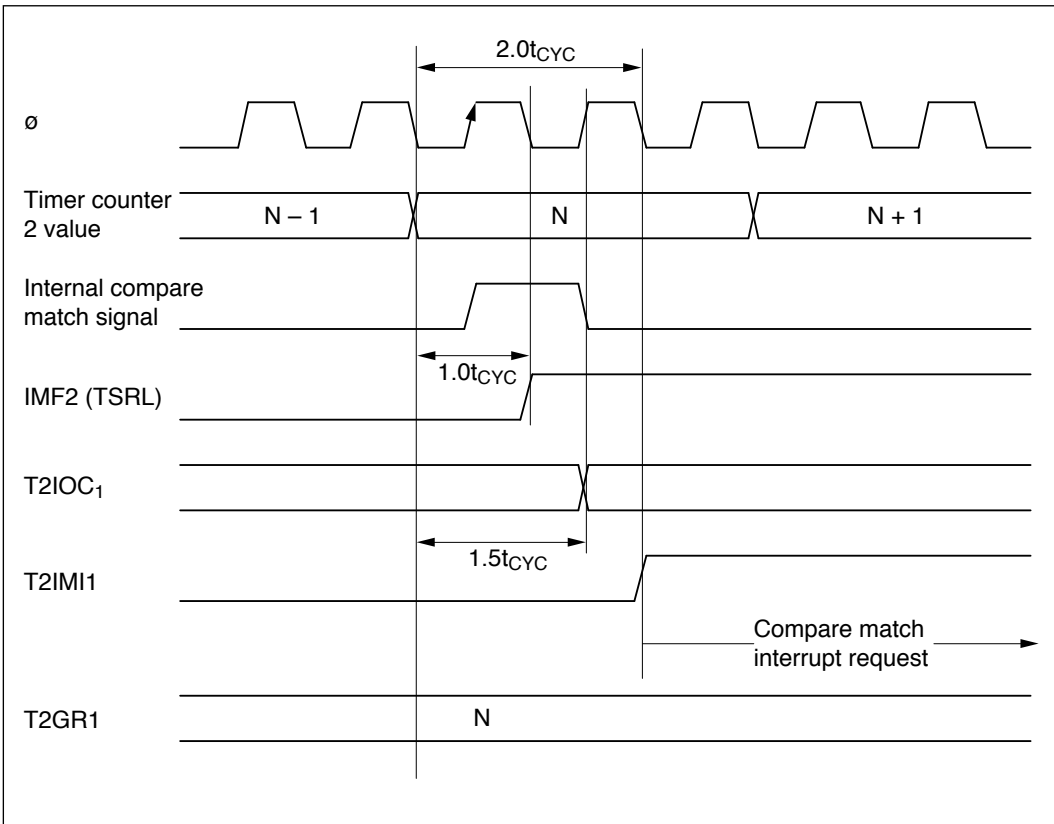

Figure 10-46 Timing from Incrementation to Compare Match Interrupt Request
(1) Output Compare Timing: Figure 10-46 shows the timing from counter increment to generation of a compare match interrupt request. One system clock cycle ($1.0t_{CYC}$) after timer counter 2 matches the T2GR1 value (N), the IPU sets the input capture/compare match flag (IMF). A compare match signal ($T2IOC_1$) is output $0.5t_{CYC}$ after IMF is set. The interrupt request ($T2IMI1$) is generated $0.5t_{CYC}$ after the $T2IOC_1$ output. The $T2IMI1$ interrupt request therefore comes $2.0t_{CYC}$ after the counter is incremented to N.